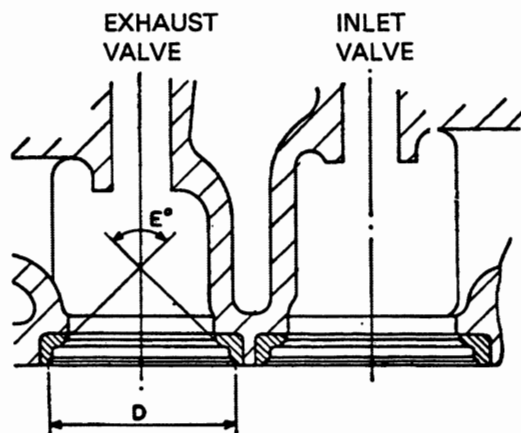

Fig. F12
5. Check to ensure that the insert is square and installed to the bottom of the recess, see fig. F12.